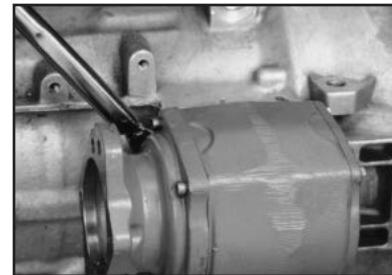

Figure 10
7. Fasten the PTO to the transmission. Torque the fasteners to their proper specifications (Fig. 10):